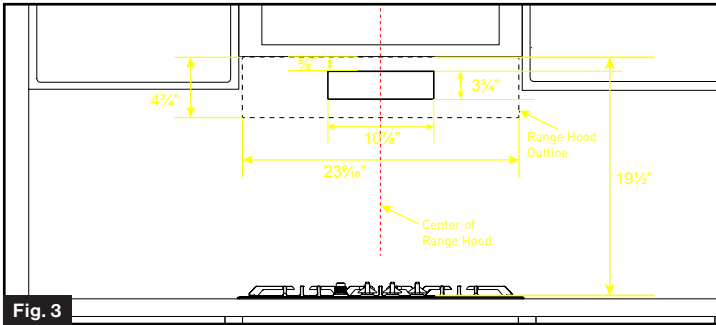

Fig. 3
3. Mark centerline of range hood on the wall. (Fig. 3)
4. Mark and cutout a through-hole on the wall according to the dimensions outlined in Fig. 3.